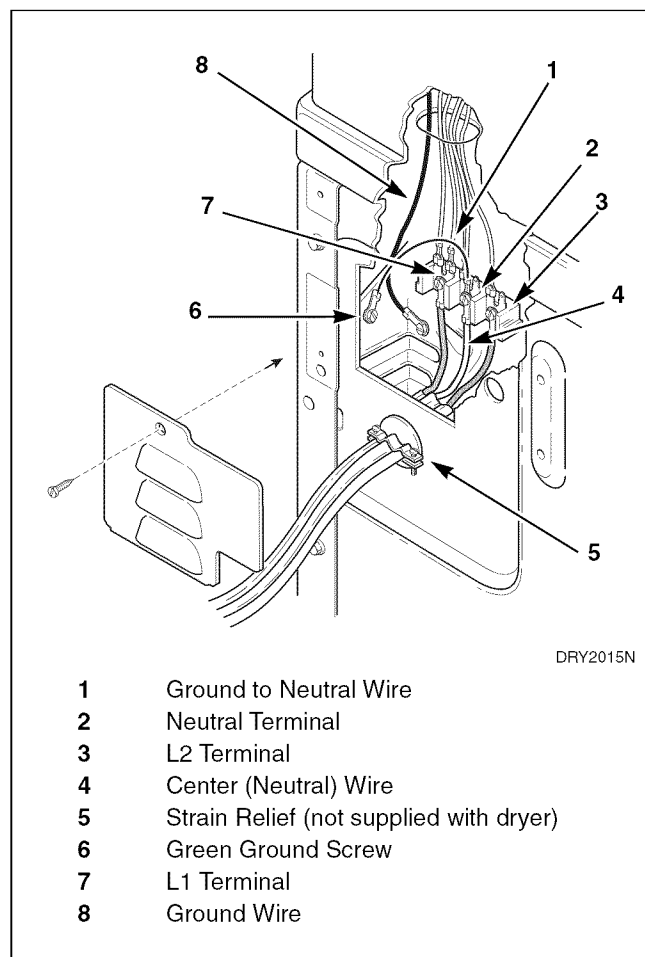

Figure 15
- Use the three silver screws removed in step 3 to attach the wires from the new power cord and the other end of the green ground wire to the terminal block as shown in *Figure 15*.